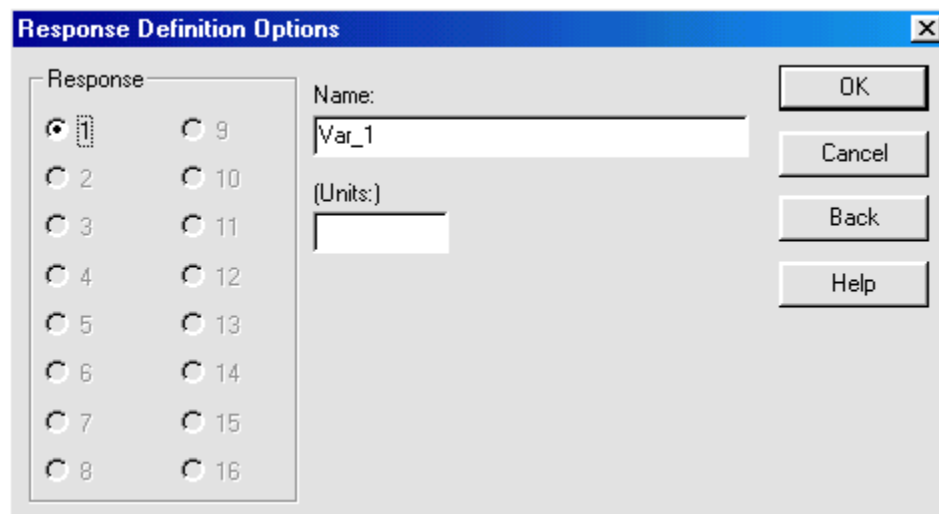

Figure 6-3. Response Definition Options Dialog Box
5. Click OK to display the Response Definition Options dialog box shown in Figure 6-3.